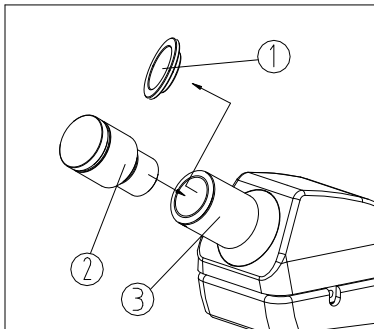

Fig.4
1. Take down the cover of eyepiece tube (1).
2. Insert the eyepiece (2) into the eyepiece tube, until it touches the surface.
3. Tighten eyepiece with M2.5 inner hexagon lock-screw (3) (see Fig.4).